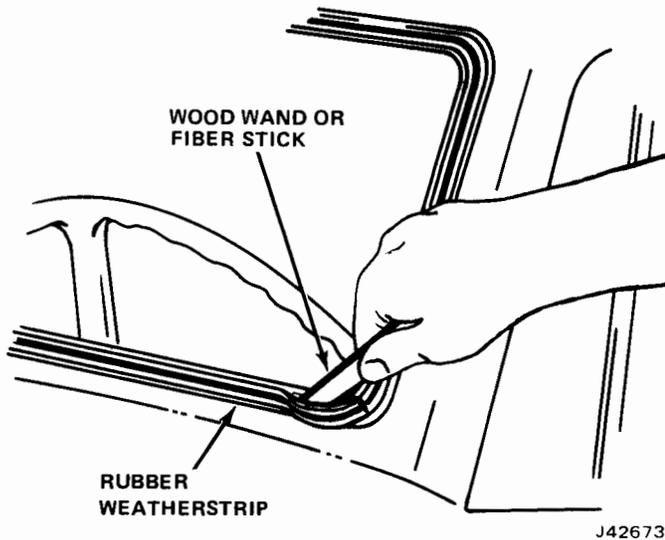

Fig. 17-4 Unlock Rubber Weatherstrip
(6) On units with or without mouldings, unlock the rubber weatherstrip starting at the bottom with a fiber stick or wand (fig. 17-4).
(7) Remove inside rear view mirror from bracket.
(8) Use fiber stick to break seal between windshield glass and weatherstrip.
(9) Use two men to remove windshield from weatherstrip, one man lifting as windshield comes free.
(10) Remove weatherstrip from opening.
(11) Inspect weatherstrip and clean off sealer from glass cavity and flange cavity.